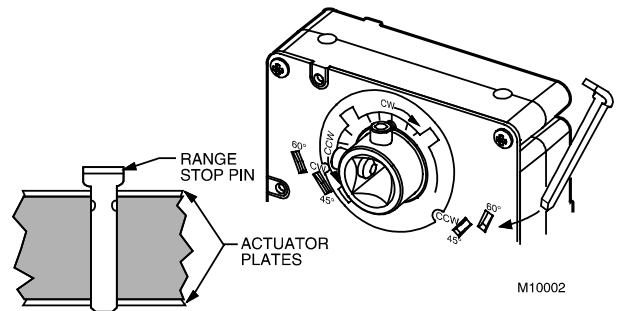

Fig. 7. Properly inserting range stop pin.
1. If the damper rotates clockwise (CW) to open, and the angle of the damper open to closed is 90 degrees, manually open the damper fully to the clockwise direction and mount the W7751H to the VAV damper box and shaft. Tighten the Allen set screws. The part no. 201614 Range Stop Pin (shipped with the W7751H Smart VAV Actuator) is unnecessary. When the W7751H closes, the damper rotates CCW 90 degrees to fully close.
2. If the damper rotates clockwise (CW) to open, and the angle of the damper open to closed is 45 or 60 degrees, manually open the damper fully to the clockwise direction and mount the W7751H to the VAV damper box and shaft. Tighten the Allen set screws. Insert the part no. 201614 Range Stop Pin (shipped with the W7751H Smart VAV Actuator) in either the 45 or the 60 degree CCW slot, whichever applies (see Fig. 7). The range stop pin must go all the way through the housing. The pin can be installed in the CCW slots only when the actuator is in the CW position. Manually open the damper shaft fully (CCW) and then tighten the Allen set screws. When the W7751H closes, the damper rotates CCW either 45 or 60 degrees to fully close.
NOTE: Special precautions must be taken for this application. Mount the W7751H to the damper box. (Do not tighten the Allen set screws yet). Before the part no. 201614 Range Stop Pin (shipped with the W7751H Smart VAV Actuator) can be inserted in either the 45 or 60 degree CW slot, the damper actuator must be driven fully open (CCW). To do this, the controller on the W7751H must be wired, powered, and connected to the portable PC via the Serial LonTalk® Adapter (SLTA). The SLTA connects to the controller on the W7751H via the Jack for Network Access on T7770 Wall Module or by the B-Port on the Q7750A Zone Manager. From E-Vision Software, drive the actuator on the W7751H fully CCW, and insert the range stop pin in either the 45 or the 60 degree CW slot, whichever applies (see Fig. 7). The range stop pin must go all the way through the housing. The pin can be installed in the CW slots only when the actuator is in the CCW position. Manually open the damper shaft fully (CCW) and then tighten the Allen set screws. When the W7751H closes, the damper will rotate CW 45 or 60 degrees to fully close.